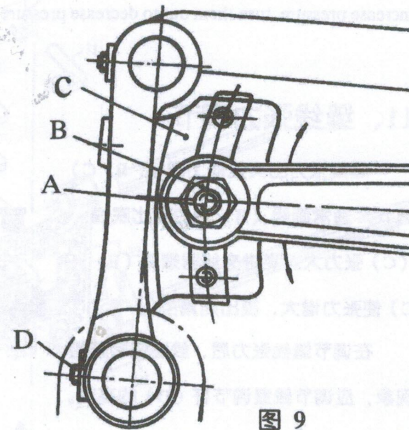

图 9
送料牙在针板槽内的两侧面间隙不对等时,拧松牙架座C(图9)上的两只螺钉D,左右移动牙架座至要求位置后再拧紧螺钉D。
If feed dog is not in the centre in the throat plate slots. Loosen screws D in the feed rocker C(Fig.9), move the feed rocker right of left as required. Then retighten screws D.
针距长短的调节,是通过牙架座(图9,C)扇形槽中的针距调节螺钉(A)的上下移动来实现的。下降螺钉(A)使针距加大,升高则缩短针距。调节时拧松螺母(B),上下移动螺钉(A)至需要的针距后再固紧螺母(B)。
The length of the stitch can be adjusted by raising of lowering the stud (A) in the segment slot of the feed locker (C Fig.9). Lowering the stud will loosen the stitch. After loosening nut (B), stud (A) can be moved accordingly. When the desired stitch length is obtained, retighten nut (B).